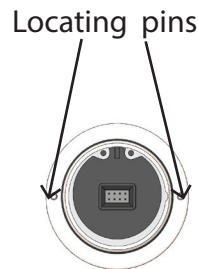
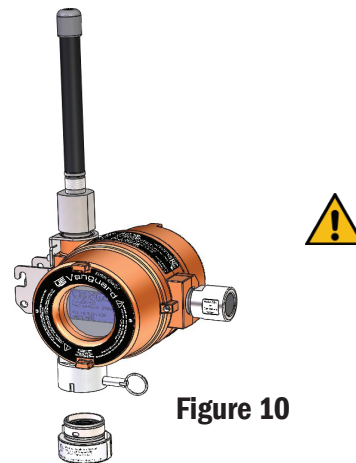

Figure 9
Figure 10
3. Align the locating pins (see Figure 9) on the FLEXsense™ sensor to the keyed positions on the sensor housing (see Figure 10).